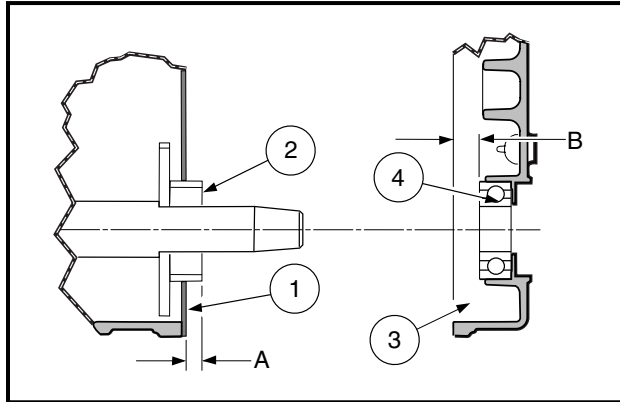

Figure 18-90 Determine Crankshaft Shim Size
1. With the gasket installed on the crankcase, measure from the gasket surface (1) to the helical gear surface (2). Record measurement (A) (Figure 18-90, Page 18-42).
2. Measure from the crankcase cover (3) mounting face to the crankshaft bearing inner end (4). Record measurement (B).